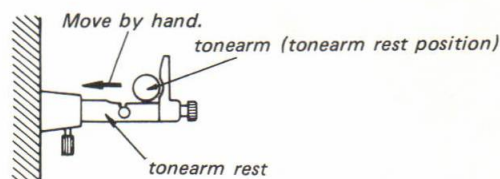

Fig. 9
- 4) When the POWER is on, slowly move and lay the tonearm in the horizontal position against the frame, and from there by slowly lowering to the frame, the zero balance will be set and the STAND BY lamp will turn off. Refer to Fig. 9.